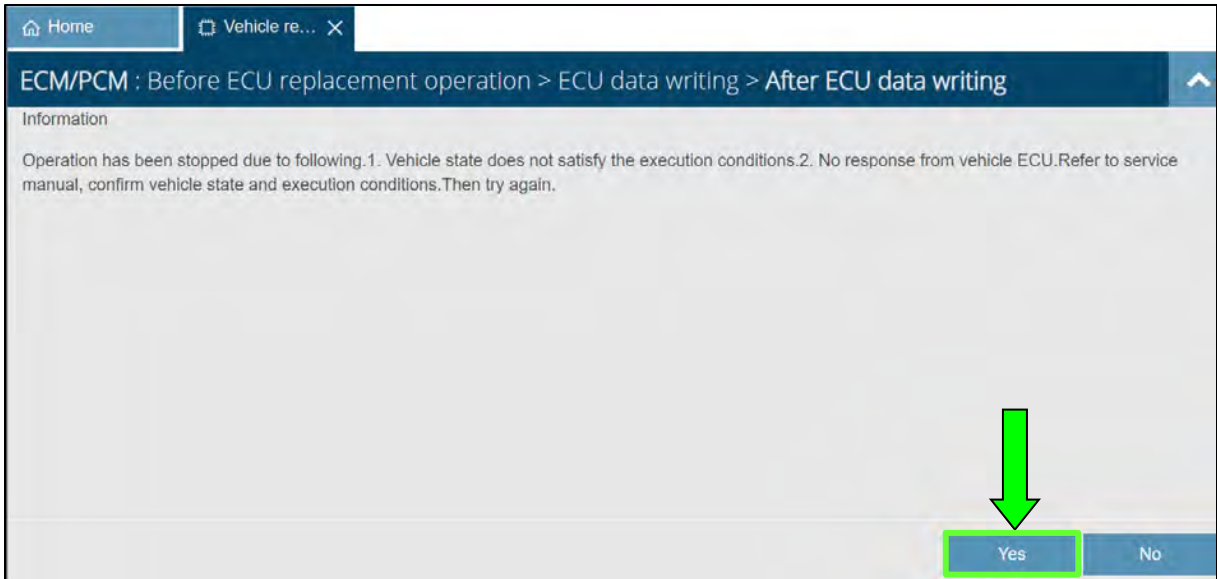

Figure 25
28. If the error shown in Figure 25 is present, select **Yes** and reattempt IAVL once it is displayed.